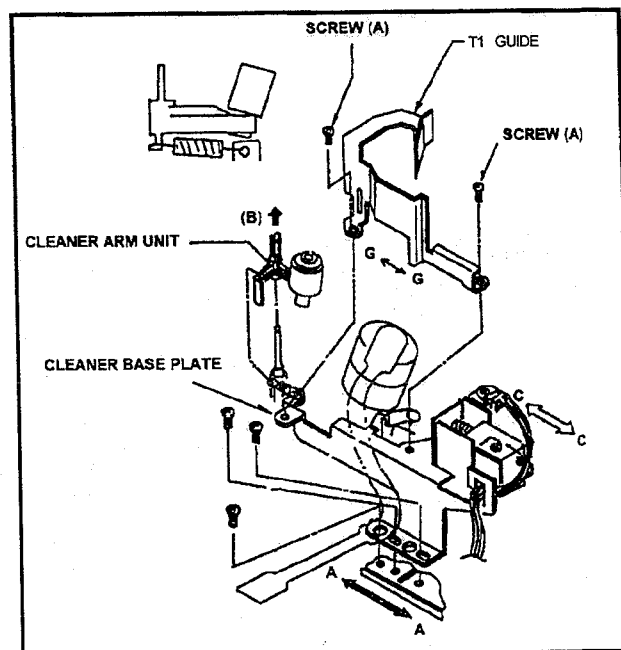

Fig. M18
2. Unscrew the 2 screws (A) to remove the T1 Guide.
3. Pick up the tip portion (B) of Cleaning Arm Unit and remove the spring from Cleaner Arm Unit. Then remove the Cleaning Arm Unit as shown in Figure M18.